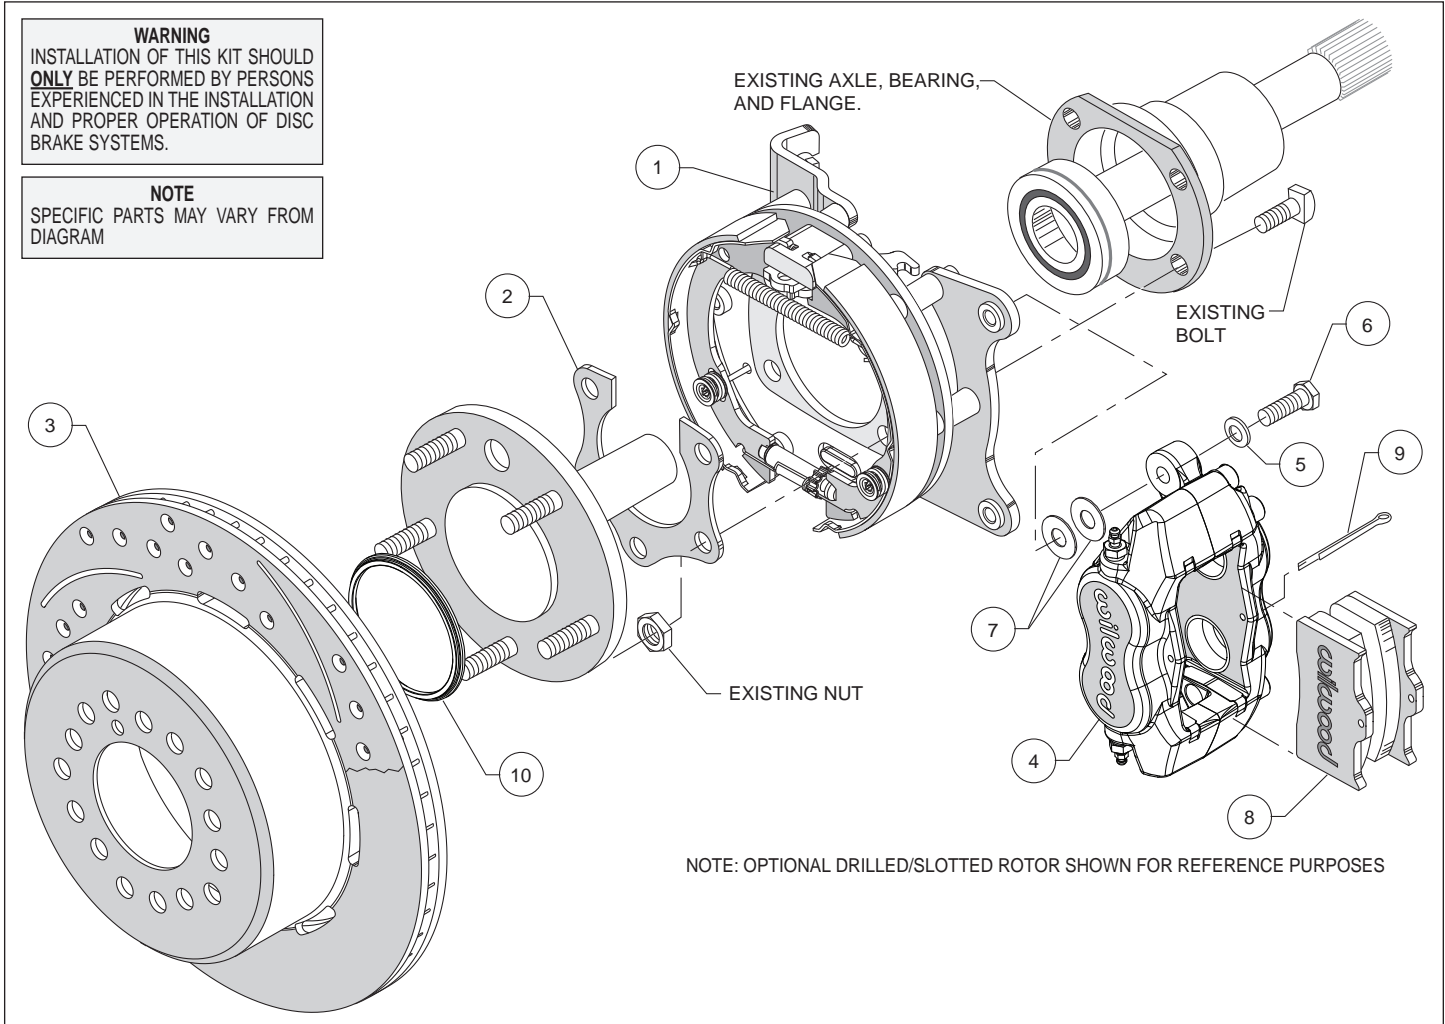
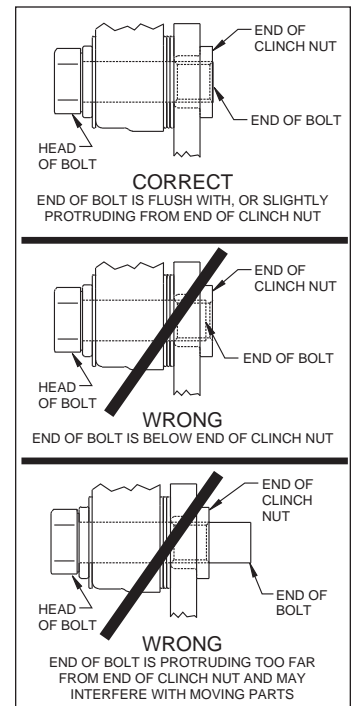

Figure 3. Typical Installation Configuration
Figure 7. Clinch Nut Engagement Diagram
Assembly Instructions (numbers in parenthesis refer to the parts list, and Figure 3 on the preceding pages): **CAUTION:** All mounting bolts must fully engage clinch nuts. Be sure to check that all bolts are either flush or protruding through flanged side of clinch nut after shimming, Figure 7.
• Temporarily remove the retaining ring and o-ring from the bearing. Use care so as not to damage those components. Orient the bracket assembly (1) as shown in Figure 3 and Photo 1 and slide it onto the axle and past the bearing. Reinstall the retaining ring and o-ring onto the bearing, again using care. Insert the axle and bracket into the axle housing. Ensure that the bracket assembly backing plate fits flush against the axle housing flange.
• Install the bearing retainer (2) with the opening pointing upward and the relief step facing inward (toward the bearing), as shown in Figures 3 and 6, and Photo 2. Secure retainer and bracket assembly to the axle housing flange using the Original Equipment Manufacturer (OEM) bolts and nuts, Figure 3. Apply red *Loctite*® 271 to the OEM bolt threads and torque to OEM specifications.
• Slide the rotor registration adapter (10) onto the axle register on the axle flange with the smaller O.D. facing toward the rotor/hat (3), Photo 3. Align the correct hole pattern in the rotor/hat with the stud pattern on the axle flange and slide into place, Figure 3 and Photo 4. **NOTE:** The rotor/hat must fit flush against the axle flange or excessive rotor run out may result. Install three lug nuts (finger tight) to keep the rotor/hat assembly in place while continuing with the installation. **NOTE:** Some OEM and after market axles come with stud sizes larger than 0.50" diameter. Verify stud size and have a qualified machine shop drill the bolt circle of the hat/rotor to the correct stud size, if necessary.
• **NOTE:** Please reference the caution statement at the beginning of the assembly instructions. Mount the caliper (4) onto the caliper mounting bracket (1) using bolts (6) and washers (5), as shown in Figure 3. Initially place two .035" thick shims (7) on each bolt between the caliper and the bracket, Photo 5. Temporarily tighten the mounting bolts and view the rotor (3) through the top opening of the caliper. The rotor should be centered in the caliper, Photo 6. If not, adjust by adding or subtracting shims between the bracket and the caliper. Always use the same amount of shims on each of the two mounting bolts. **NOTE:** The end of each bolt must be flush with or slightly protruding from the head of the clinch nut, as shown in Figure 7. If necessary place spare shims between washer (5)